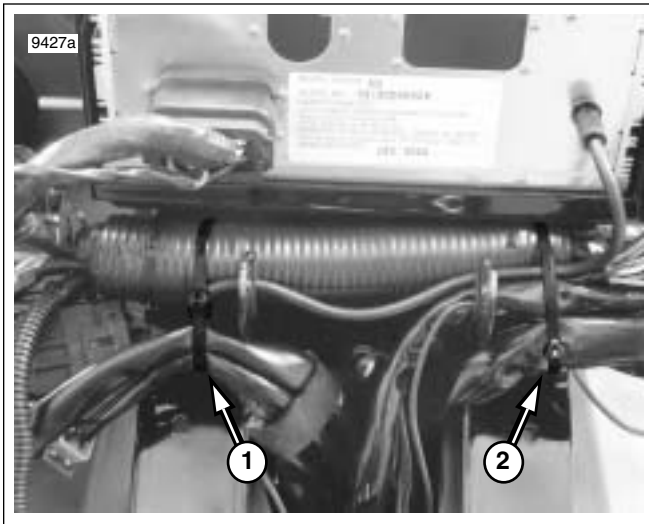

Figure 8-179. Cable Strap Convoluted Tubing and Conduit
4. Carefully cut two cable straps to free wire bundles and conduit from convoluted tubing of interconnect harness and allow to hang naturally. See Figure 8-179.
1. Center convoluted tubing of interconnect harness above and inboard of hooks on radio bracket. See Figure 8-179. To verify proper orientation, be sure that long length of conduit terminating in socket terminals of cigarette lighter is on left side of motorcycle. Install radio antenna
7. Orient connectors as shown in Figure 8-177. Install two **new** cable straps outboard of radio bracket hooks to secure wire bundles and conduit to convoluted tubing of interconnect harness. Cut any excess cable strap material. See Figure 8-179.